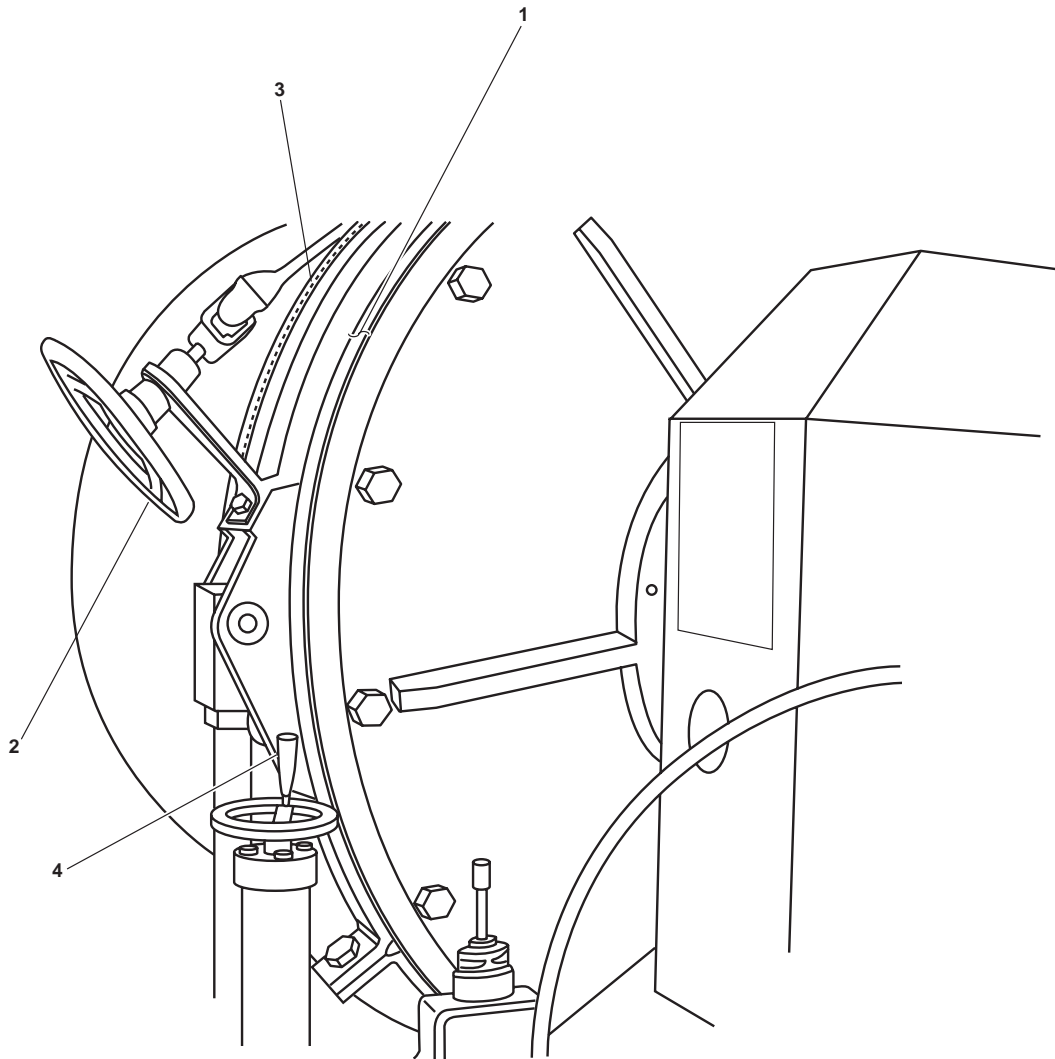

Figure 7. Towing Machine Clutch Brake and Auxiliary Brake
3. Tighten the clutch brake (figure 7, item 1) by tightening the clutch brake handwheel (figure 7, item 2).
4. Loosen the auxiliary brake (figure 7, item 3) by loosening the auxiliary brake handwheel (figure 7, item 4) to allow free rotation of the drum.